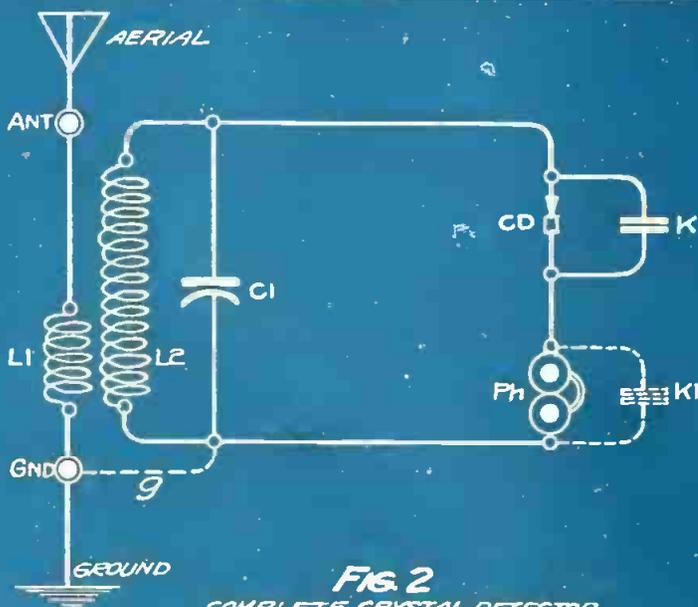
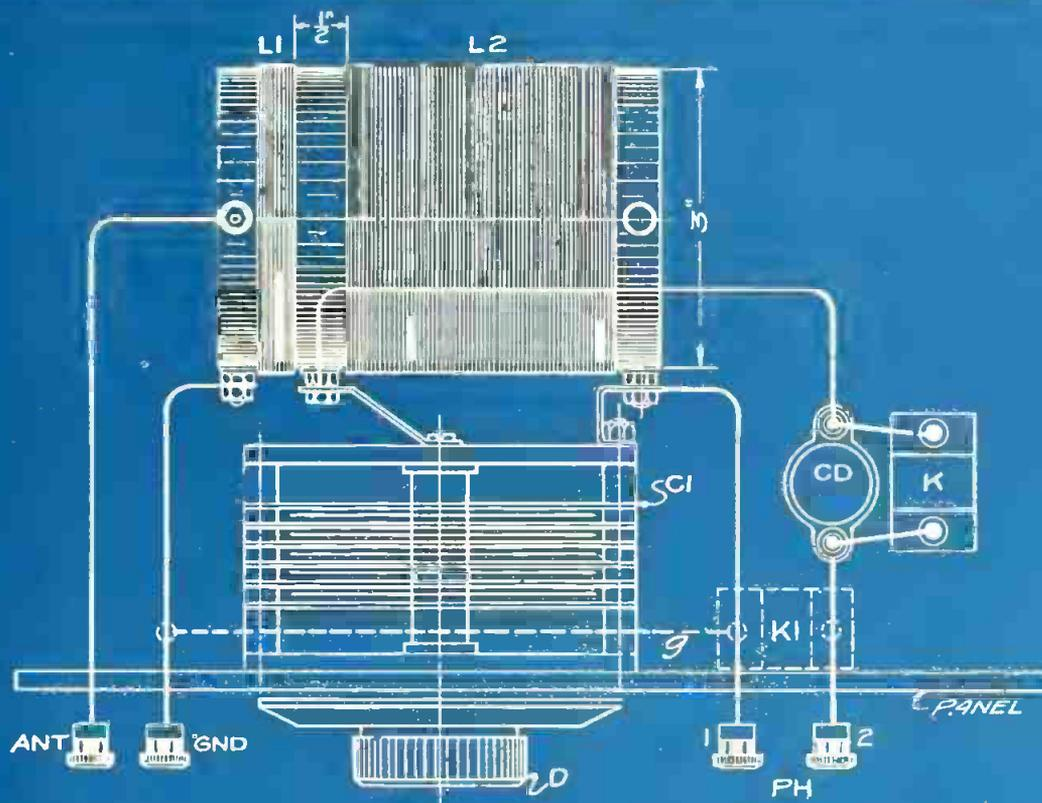

FIG. 2
FIG. 3
In Fig. 2 we have the schematic diagram of the complete circuit. The coupler consists of the primary coil (L1) connected at one end to the aerial and to the ground at the other end. The radio impulses from (L1) are communicated to the secondary coil (L2) which is identical with the coil (L) in Diagram (B). A variable condenser (C1) is connected across the secondary coil so that it can be tuned to wavelength. The fixed condenser (K) connected across the crystal detector (CD) serves the purpose already described. The phones (Ph) are in series with the crystal detector.
A complete drawing of the circuit with all of the parts in place is shown by Fig. 3, the letters in this drawing corresponding with similar letters in the schematic diagram of Fig. 2. A detail view of the coupler coil is shown which is connected to the variable tuning condenser (C1), the latter being connected directly across the secondary coil (L2) of the tuning inductance. The crystal detector (CD) is best placed as shown and should not be mounted on the front panel where it is likely to be thrown out of adjustment by the jar of the hand every time we move the tuning dial.
In Fig. 1 of the accompanying blueprints we show a wiring diagram and plan view (Looking down on top of the set) which is for the use of our readers who are not familiar with conventional or symbolical diagrams. In Fig. 2 is the symbolical diagram of the set for the information of the advanced readers who may wish to learn how the circuit functions. An isometric view in Fig. 3
shows the general arrangement on the rear of the panel and the run of the wiring, but we advise the reader to make the actual wiring connections with the aid of either Fig. 1 or Fig. 2 as in these views the wiring is clearer and easier to follow. Keep these blueprint diagrams for reference and you will have no trouble with this set.
Looking at Figs. 1-2 we see the tuning variometer (VA) which is really a specially connected vario coupler of the spiderweb type. In the particular coupler shown a movable coil or "rotor" marked (r) is connected in series with the stator (s), the latter being the tapped coil. The tapped portion (L) of the coupler stator is simply the tapped portion of this member but is drawn out separately in Fig. 2 for emphasis in showing the application of the tap switch (TS). The tap switch gives closer control of the tuning and it will be noted that no variable condenser is included in the grid circuit.
The only special instructions that seem necessary for this circuit are those which relate to the conversion of a vario-coupler into a tapped variometer. One lead from the rotor or movable coil shown by (r) in Fig. 2 is connected to the outermost lead from the stator coil (s). In this way the rotor and